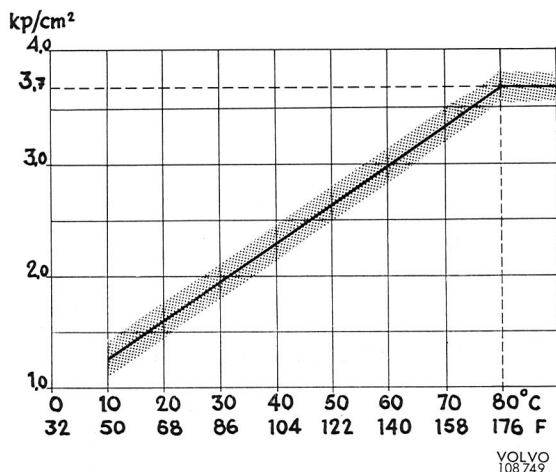

Fig. 2-194. Control pressure at various temperatures
5. Read the control pressure and compare with the chart, Fig. 2-194.